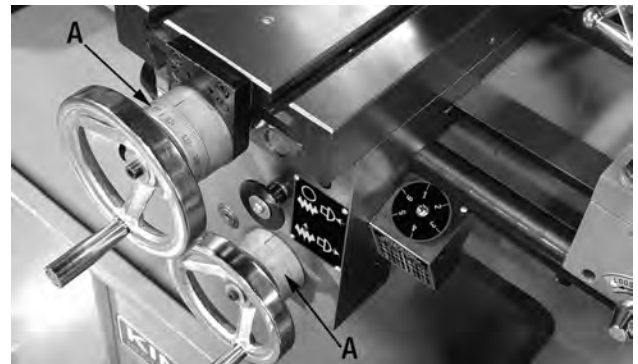

FIGURE 15
1. Each handwheel dial (A) Fig.15 can be rotated without turning the handwheel or handle. This is helpful because the dial can be set to zero after the tool touches the part. The graduated dial can be adjusted by holding the handwheel or handle with one hand and turning the dial with the other.